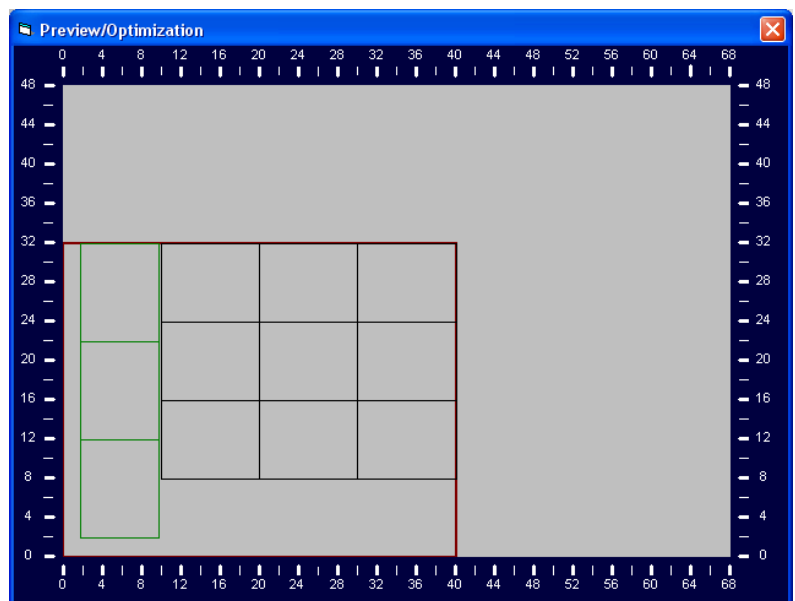

Figure 2.58
**Preview/Optimization:** Click this button in the Multi-Mat Array window to preview the program’s layout of the how the mats will be cut within the available mat area. You may decide to change any of the above parameters in order to alter the optimization of mat cuts. Figure 2.58 shows the